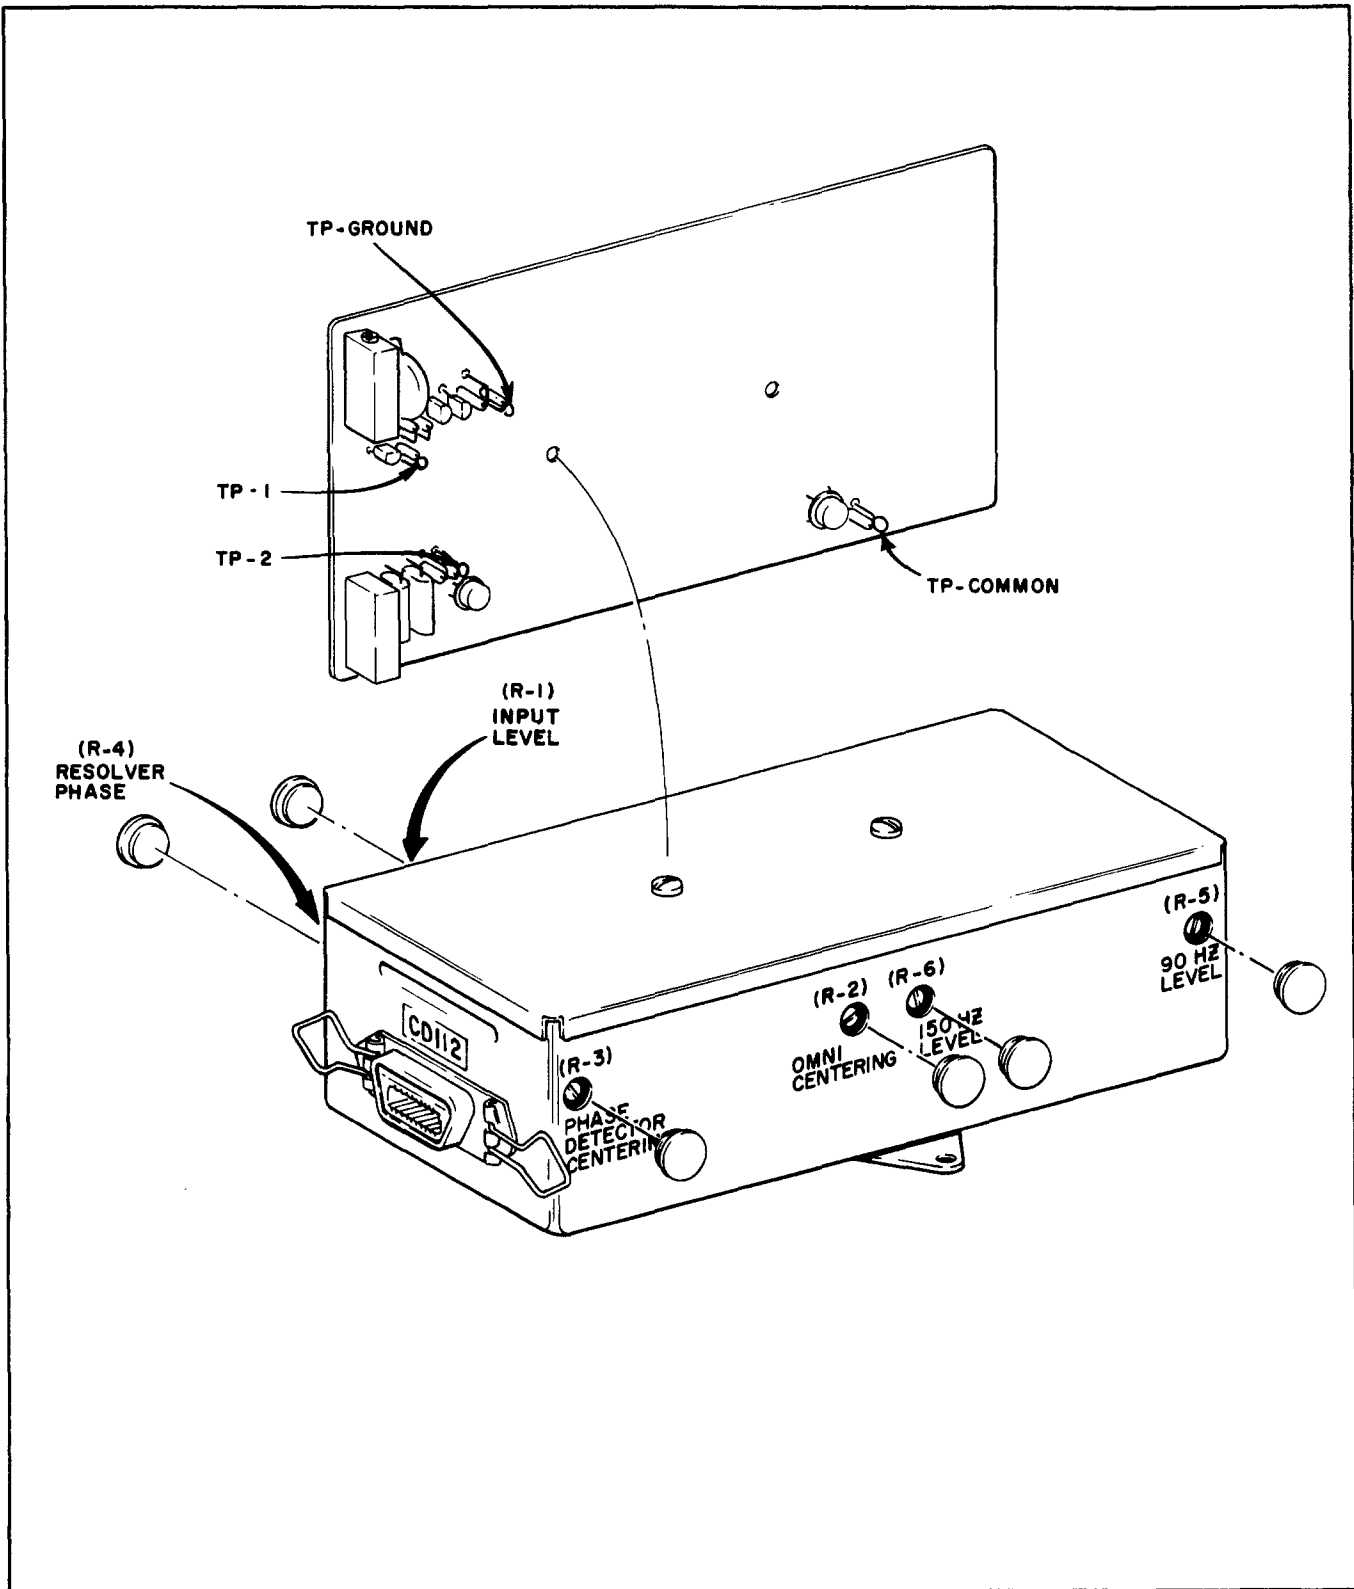

Figure 5-8. NAV Converter (1C707) Adjustment Potentiometers
- a. 1C707 OMNI/LOCALIZER CONVERTER SET UP PROCEDURE. (Refer to Figure 5-8.)
5. With a standard VOR signal applied adjust R-1 VOR receiver (input level) for 4.0 VP-P or 1.41 VRMS at Test Point 1. See Figure 5-8. (See Note)
6. Check for 4 VP-P or 1.41 VRMS  $\pm$  15% at Test Point 2. See Figure 5-8. (See Note)